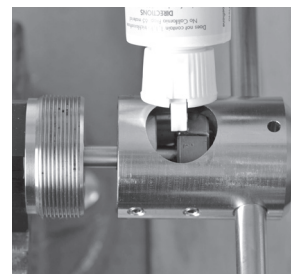

Fig. 39 Applying cutting fluid through the chip window
4. Apply cutting fluid through the chip window to the threading die and end of the tube. (Fig. 39)